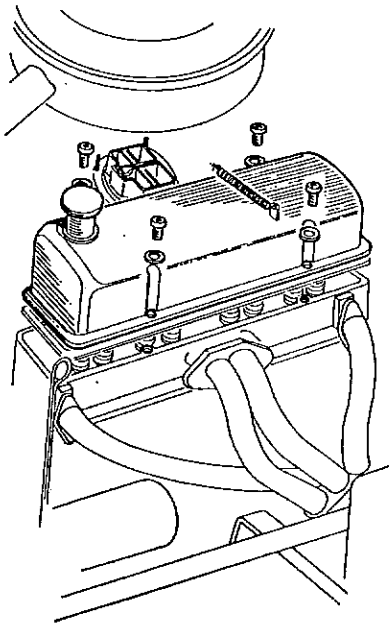

Fig. 24. Rocker Cover Removal
2. Lift rocker cover off (fig. 24).